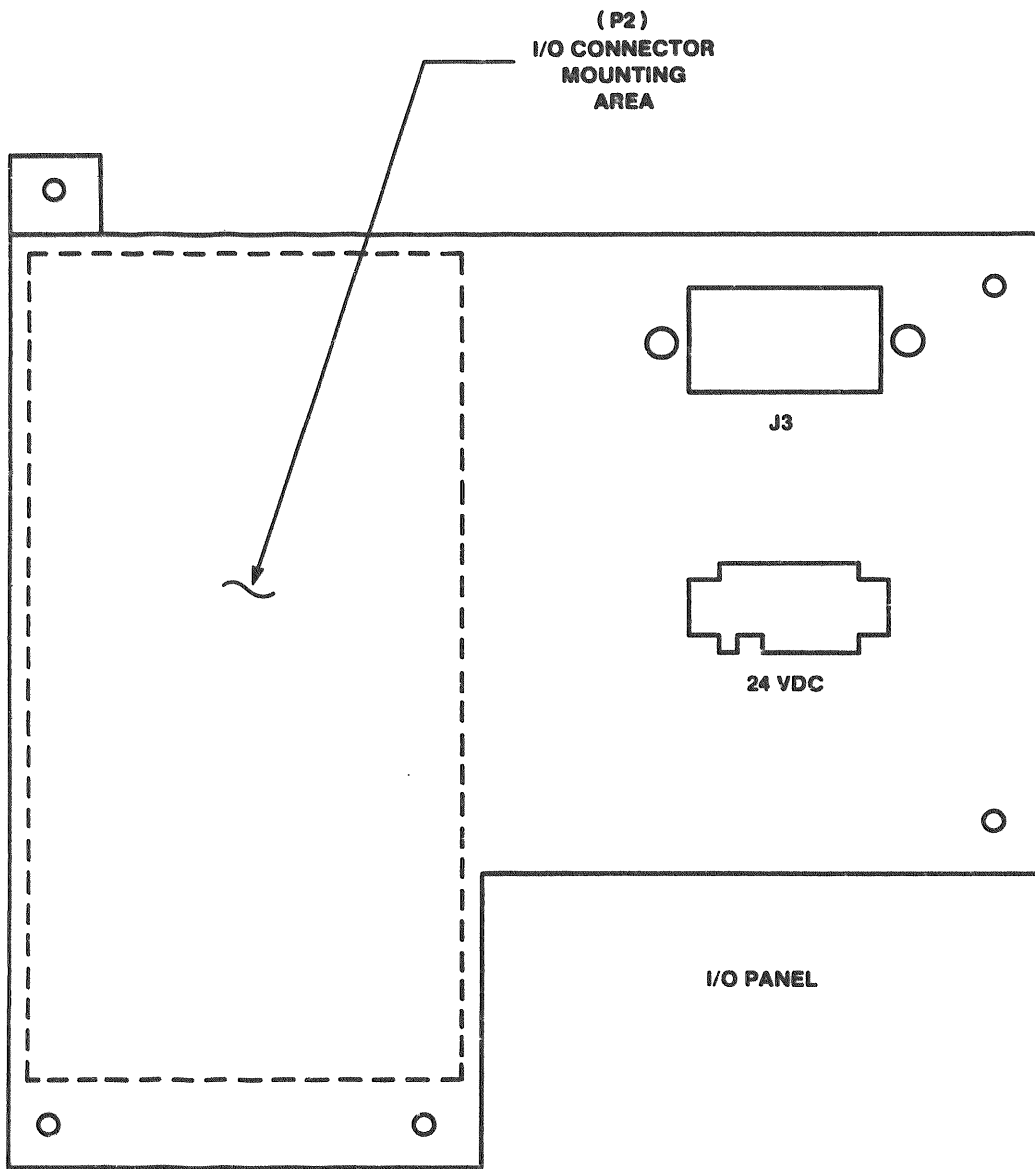

FIGURE 4-7. Control Unit Chassis I/O Panel Templet
- d. Install peripheral connector end of the I/O cable assembly to chassis I/O panel. Refer to Figure 4-7 for chassis I/O panel templet.